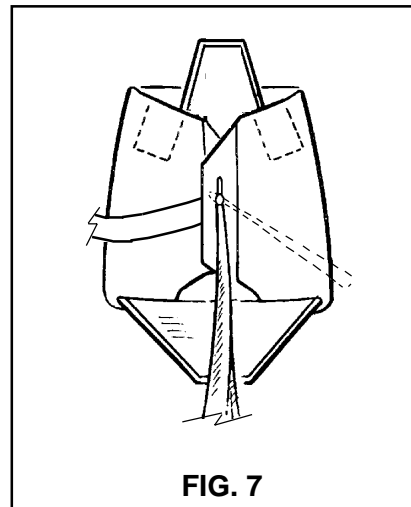

FIG. 7
8. Thread the pull-up cord through the closing loop and close each side flap in turn, routing the bridle out the side of the container. Try to keep the bulk of the canopy away from the center of the container while closing the side flaps. Secure the side flaps with the temporary pin (**FIG. 7**). Then push the tuck flaps in under the folded canopy at the upper edge of each side flap.